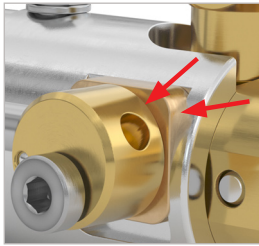
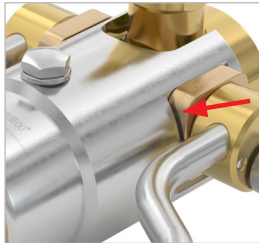

Figure 13
Figure 14
- ▶ Apply a thin film of WEH® Lubricant between the cams (red arrow, *Figure 13* and *Figure 14*).